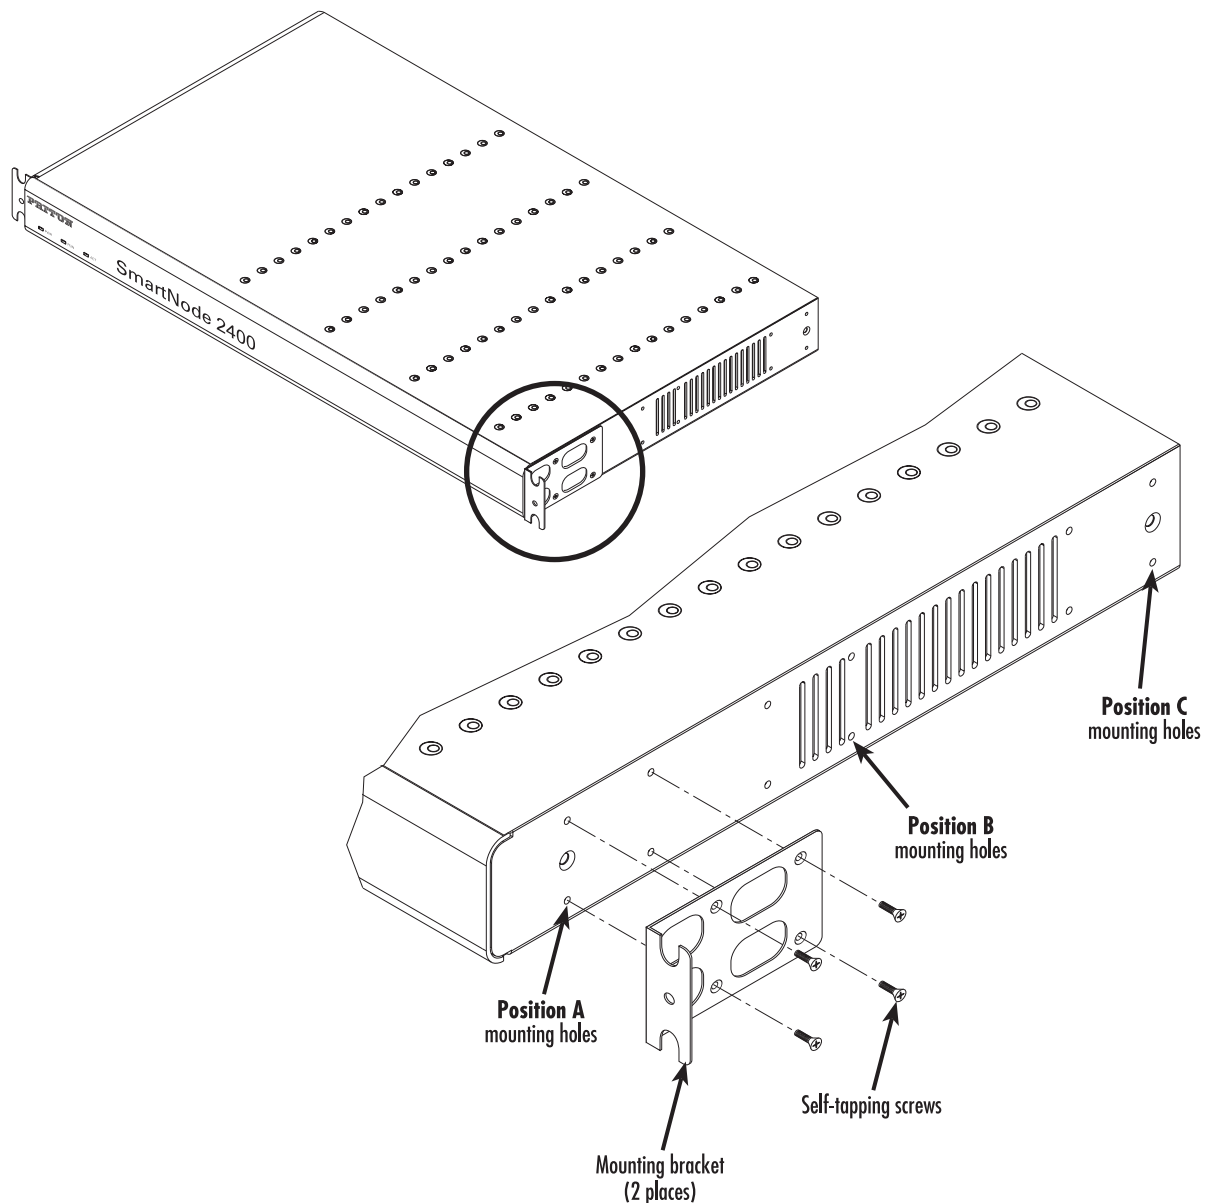

Figure 70. SmartNode 2400 rack mounting bracket location holes
1. Locate the two angled mounting brackets included in the installation kit pack. The bracket (see figure 70) is designed so you can have the 1.5 cm flange facing to the front or to the rear. There are four holes for countersunk screws on the long side of the bracket.
2. Attach a bracket to each side of the SmartNode 2400 with the four self-tapping screws provided. There are three mounting positions for the brackets (positions A, B, and C as shown in figure 70 on page 113), so choose the one that best suits your requirements.